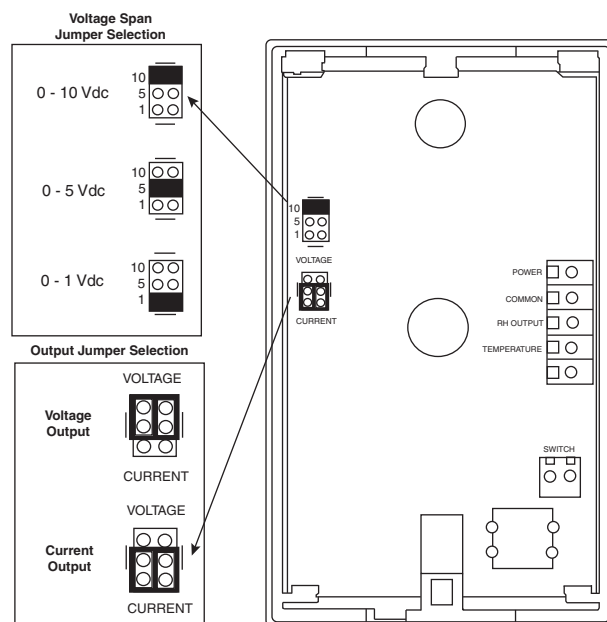

Fig. 27 — Zone Humidity Sensor Jumper Settings
- c. See Fig. 27 for jumper settings.